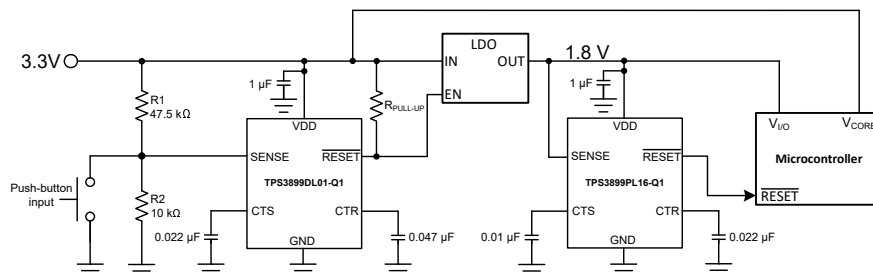

图 9-1. TPS3899-Q1 Voltage Rail Monitor and Power-Up Sequencer Design Block Diagram
A typical application for the TPS3899-Q1 is voltage rail monitoring and power-up sequencing as shown in Figure 9-1. The TPS3899-Q1 can be used to monitor any rail above 0.8 V. In this design application, two TPS3899-Q1 devices monitor two separate voltage rails and sequences the rails upon power-up. The TPS3899DL01-Q1 is used to monitor the 3.3 V main power rail and the TPS3899PL16-Q1 is used to monitor the 1.8 V rail provided by the LDO for other system peripherals. The RESET output of the TPS3899DL01-Q1 is connected to the enable (EN) input of the LDO with an external pull-up resistor $R_{PULL-UP}$ to the 3.3 V power rail. The RESET output of the TPS3899PL16-Q1 is connected to the (RESET) input of the microcontroller. A reset event is initiated on either voltage supervisor when the VDD voltage is less than V_{IT-} falling threshold voltage. For a system reset event, a push-button input is placed at the SENSE pin of the TPS3899DL01-Q1.